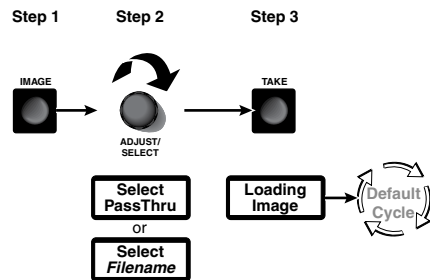

Figure 3-4 — Selecting an image
1. Press and release the Image button (figure 3-4).